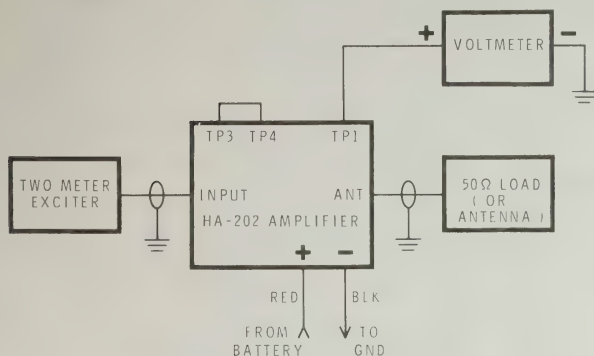

Figure 2-14
- () Refer to Figure 2-14 and interconnect your equipment. Be sure to use RG-58A/U coaxial cable for all leads which carry RF.